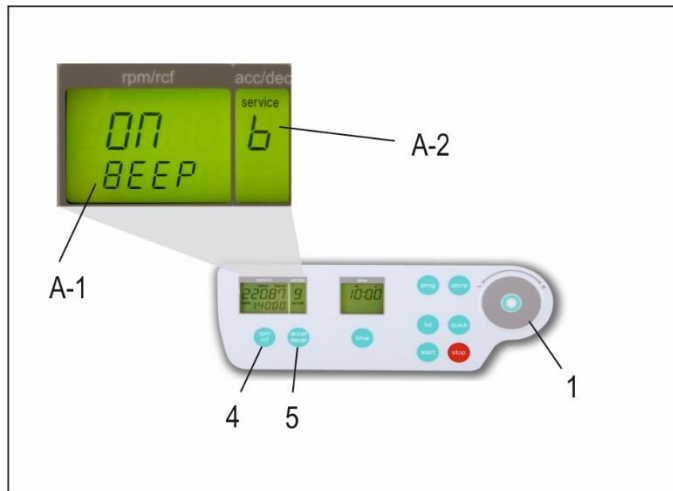

Figure 10
Proceed as illustrated, under point 1.9.1, to enter this program mode, press the key, "accel/decel" (5). In the display; "accel/decel" (A-2) flashes the word, "service". Select the letter, "b" with the control field (1). As a result, appearing in the display, "rpm/rcf" (A-1), the word "ON/BEEP". By pressing the key, "rpm/rcf" (4), the keyboard sound (On) or (Off) can be turned on, with the control field (1), (see Figure 10).